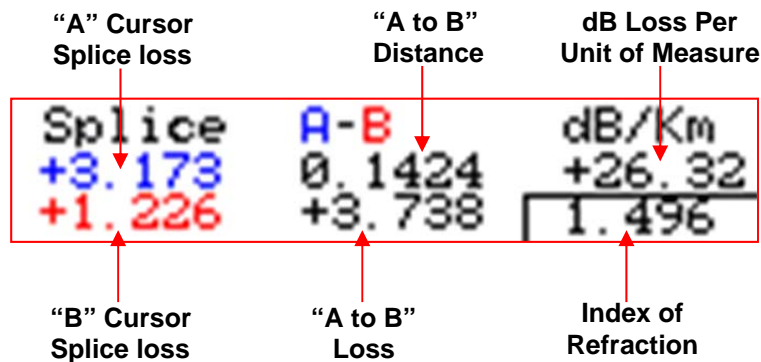

Fig 7.3
- Least Squares Approximation (LSA) Splice loss method gives the user a visual aid in setting splice loss areas. The splice loss lines must be set to overlay the backscatter of a trace without over lapping any other events. The LSA areas are set properly when the LSA visualization lines overlay the back scatter sections of the trace before and after the event. This method can be more accurate by affording the ability to see the slope of the splice loss areas, however: it can also supply a reading with greater error if not used properly. Please see Fig 7.3, 7.4 and 7.5 for examples of LSA settings. In Noisy environments the LSA Lines will have an exaggerated movement making the Basic Splice Loss Measurement potentially more accurate.